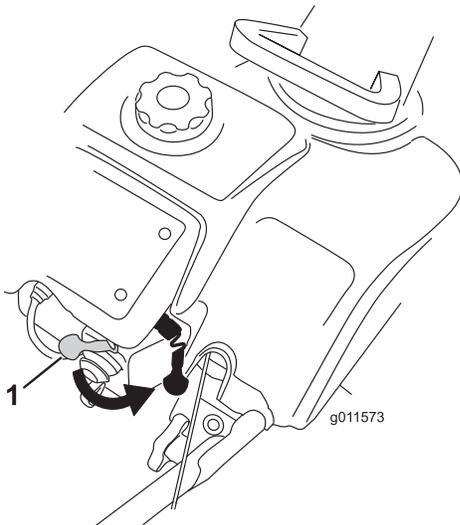
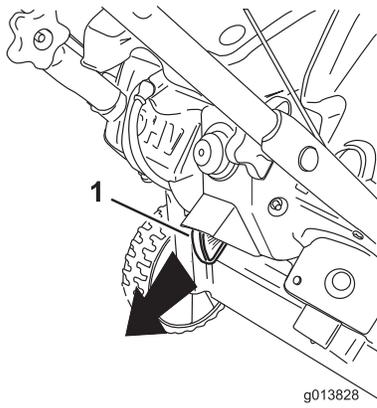

Figure 16
Figure 22
2. Move the choke lever fully to the right (Figure 16).
To shut off the engine, pull the ignition key outward until it clicks into the OFF position (Figure 22) or move the choke lever fully to the right (Figure 16).